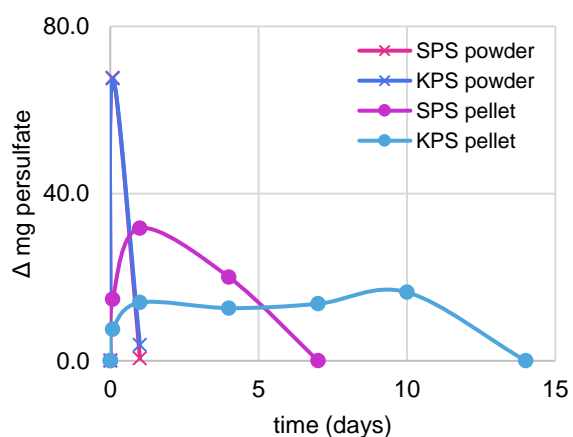

FIGURE 3. Comparison of persulfate release of SPS and KPS powder, SPS pellet, and KPS pellet. Release is plotted as change in milligrams persulfate released.
- ③ **Time to total release.** RemRx™ CRP Persulfate can be formulated to access a range of release rates, which can be tuned as a function of oxidant and polymer. Figure 3 compares sodium persulfate (SPS) and potassium persulfate (KPS) in powder and CRP pellet form. The SPS powder releases within 2 hours, SPS pellet within 7 days, and KPS pellet within 14 days in aqueous batch reactors. RemRx™ CRP release rates can be tuned to specific site needs to extend release and match the timescale of contaminant degradation in the field. These laboratory studies are corroborated by field data, which indicates that RemRx™ CRP Persulfate is still releasing a year after deployment.